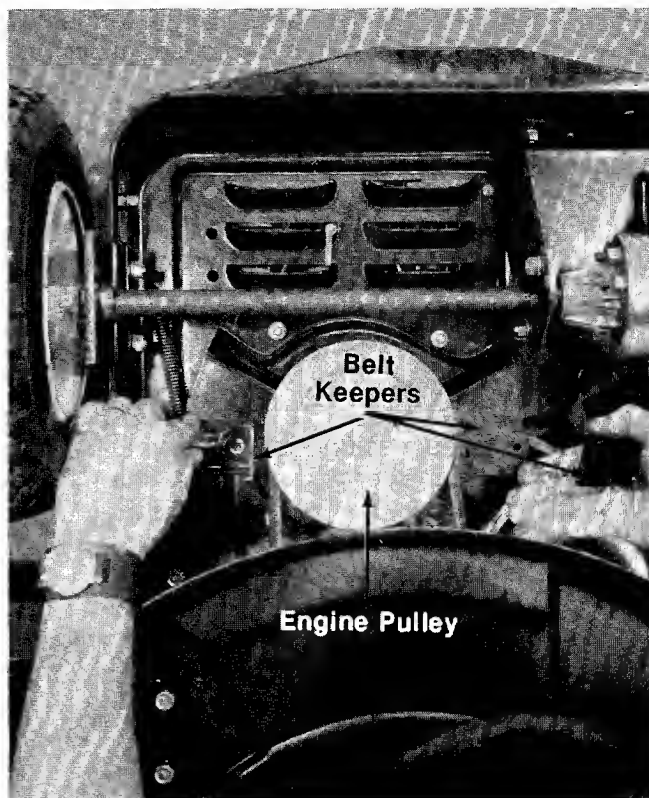

FIGURE 17. REMOVAL OF BELT KEEPERS
BELT REMOVAL See figures 17 through 21.
- Step 2. Remove two belt keepers at the engine pulley. See figure 17.